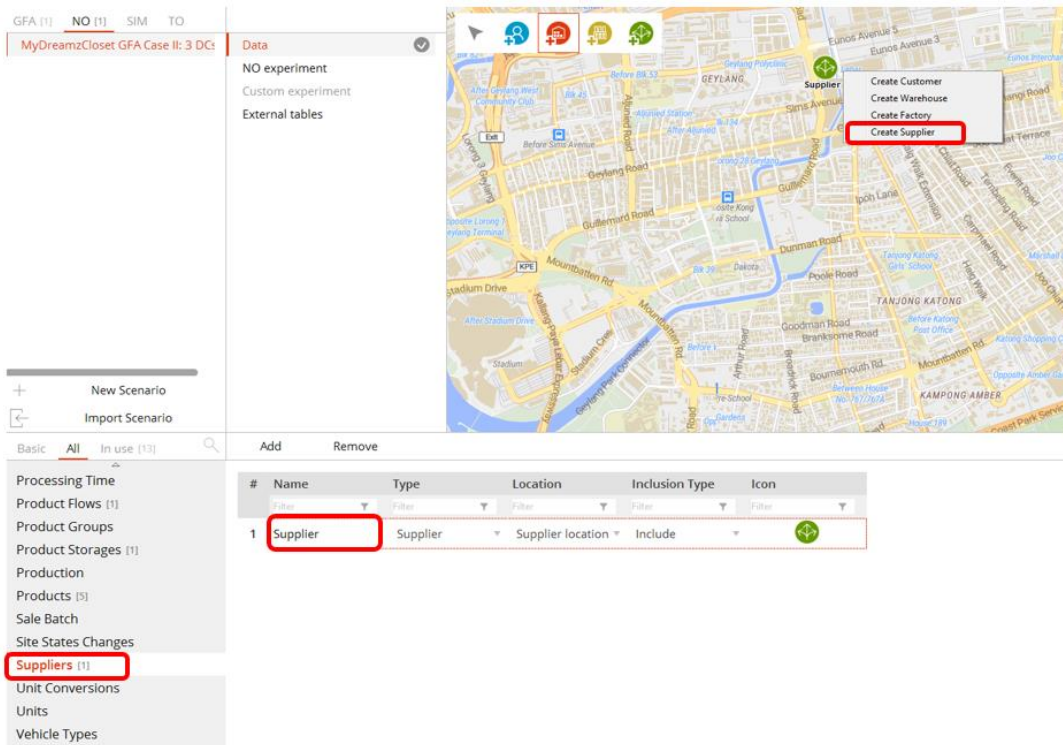

Figure 61: Creating a Supplier
- a. Search for the location of Paya Lebar Square on the map (Figure 61), right click and select “Create Supplier”
- ✓ Referring to Figure 61, go to the “Suppliers” tab and rename the “Supplier” name to “MyDreamzCloset Supplier”.